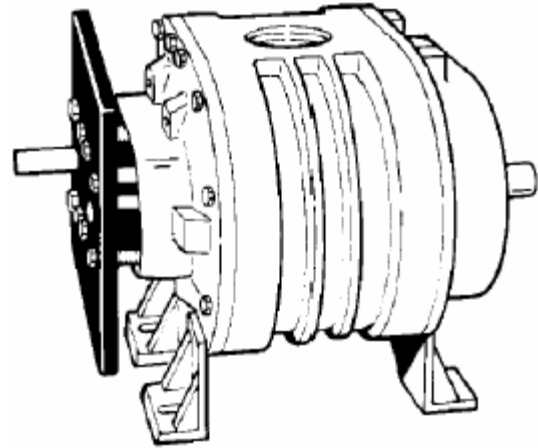

FIGURE 7-3
7. Apply a light oil to the drive headplate bearing bore, bearing inside diameter, and shaft seat. Install the drive end bearings (14) as far as possible without force.
8. Attach the puller plate shown on page 23 to the drive headplate using the tapped holes used to secure the drive cover (see FIGURE 7-3, page 29). Tighten the bolts so that the advance of the bearings stay as uniform as possible. Bearings should be pressed until flush with the drive headplate.
9. Lubricate the gear end bearing fits with a light oil as described previously. Install gear end bearings (14) as far as possible without force. Use the plate, used to install the drive end bearings, to press the bearings on the shafts as described in Step 8. Press bearings into the gear headplate until completely seated in the bearing bore.